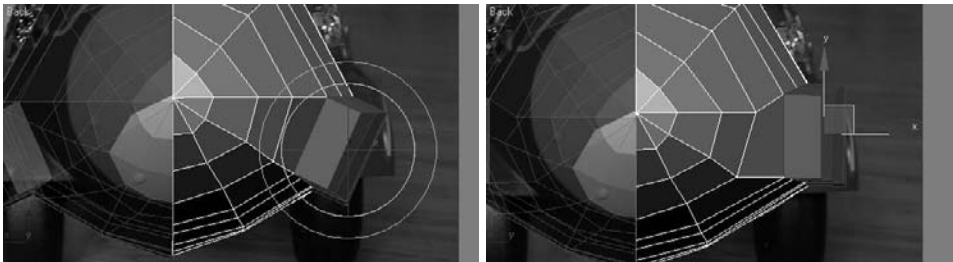

Figure 5.28
- Now select all the polygons that were created with the extrude operation shown in Figure 5.28 (on the left). Right-click in the Front viewport to activate it, press the V key, and select Back View to switch to the Back viewport. In the Back viewport, use the Rotate and Move tools to align the polygons so that they line up with the wheel well in the Front View image plane as shown in Figure 5.28 (on the right). (You can switch back to the Front viewport at any time by pressing F.)